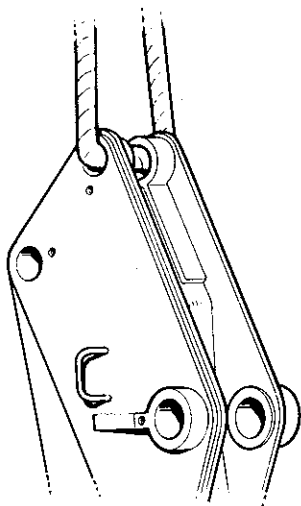

Fig. 3
19. **Dipper weight. Secure.** (fig. 3). Fit the lifting gear to the pivot point for the dipper ram, rod end, and take the weight of the dipper arm.